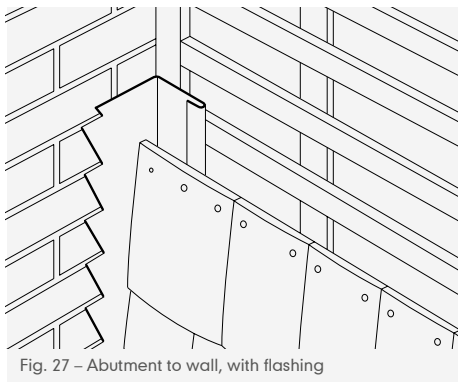

Fig. 27 – Abutment to wall, with flashing
- 3 Lead is taken around corner and top edge taken into brickwork mortar joints (Fig. 27).